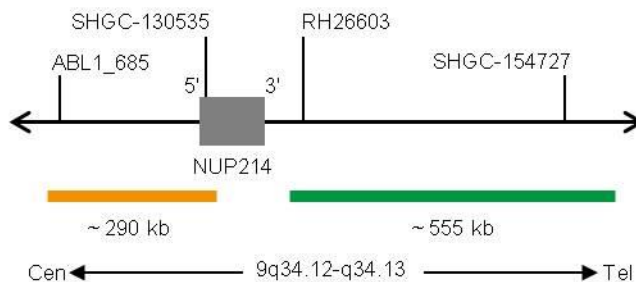

Fig. 1: SPEC NUP214 Probe map (not to scale)
- ZyGreen (excitation 503 nm/emission 528 nm) labeled polynucleotides (~10.0 ng/μl), which target sequences mapping in 9q34.13\* (chr9:134,153,663-134,706,700) distal to the NUP214 breakpoint region (see Fig. 1).
- ZyOrange (excitation 547 nm/emission 572 nm) labeled polynucleotides (~4.5 ng/μl), which target sequences mapping in 9q34.12-q34.13\* (chr9:133,739,333-134,028,546) proximal to the NUP214 breakpoint region (see Fig. 1).